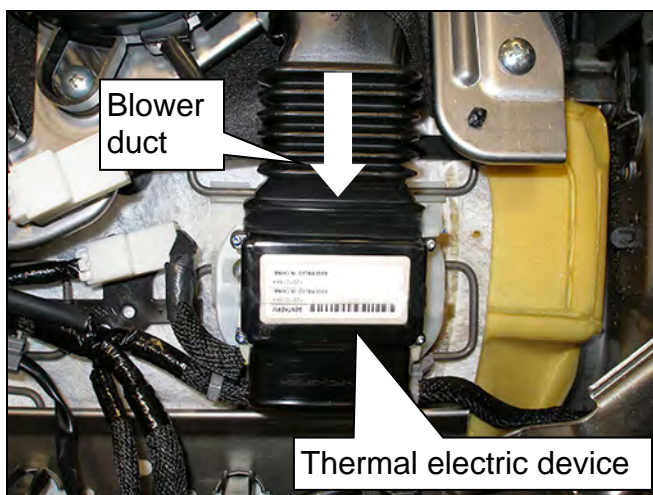

Figure 7
16. Secure blower duct to thermal electric device by applying pressure as indicated by the arrow in Figure 7.